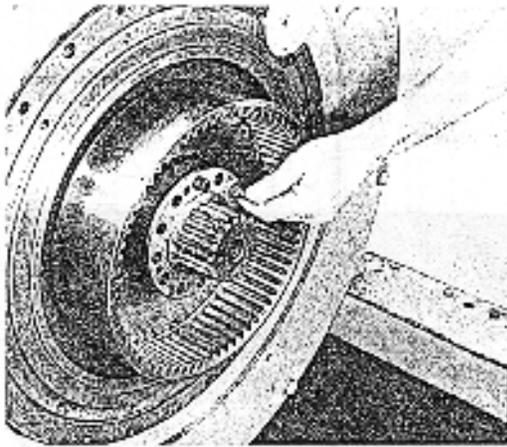

Figure 8. Installing Locking Ring on clutch Driving Drum.
15. Apply locking ring (see fig. 8) on clutch driving drum. Secure by torquing socket head cap screws* alternately as follows: 8 lb-ft the first time, 15 lb-ft the second time and 21 lb-ft the third time around. Torque all cap screws again at 21 lb-ft. for evenness. **DON'T NOT OVER TORQUE!**